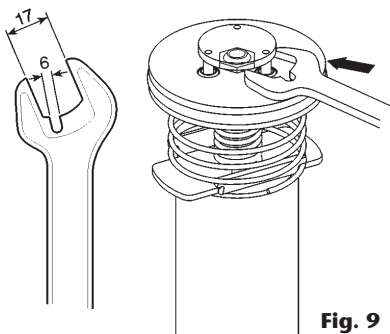
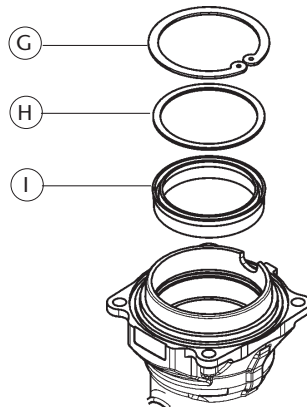
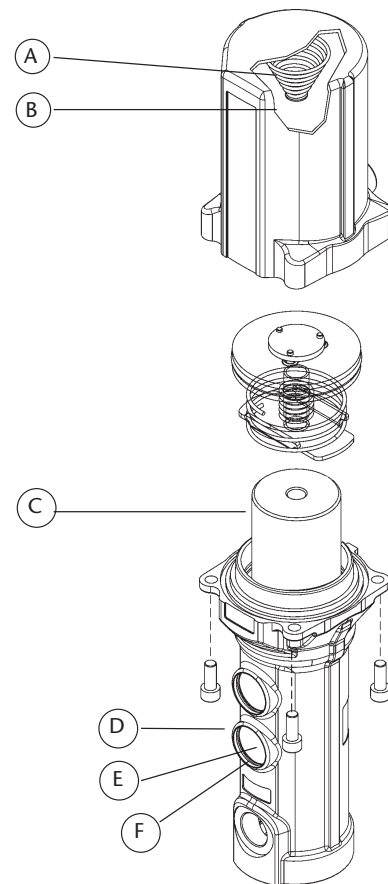

Fig. 9
Fig. 10
Fig. 8
INVERTING SET AND AIR MOTOR (FIG. 8, FIG. 9, FIG. 10)
2. Check the upper spring (A) and the spring stop (B) inside the air motor dolly. Replace in case of damage.
3. Dismount the lower circlip (D) and muffler (E) and washer (F) and pull up the inverting set until the hole in pump piston (C) gets visible in the opening where the muffler was dismantled. Introduce a steel rod (8 mm) in the hole to lock the piston.
4. Use a prepared 17 mm wrench (see fig. 9) to disassemble the inverting set.
5. Remove the piston (C) and disassemble the circlip (G), the washer (H) and the seal (I) (fig. 10). Check the piston for scratches and replace damaged parts.